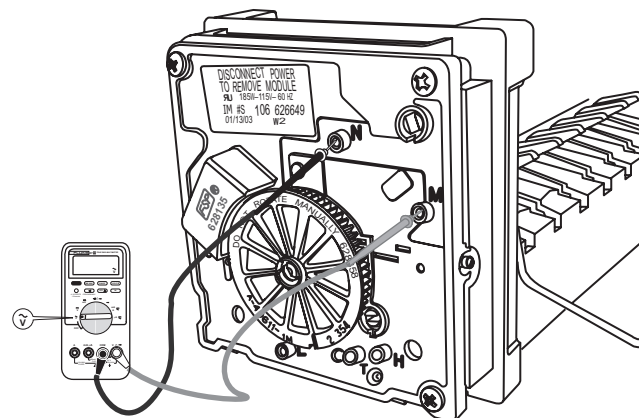

Figure 63. Checking voltage to motor
3. Set multimeter to AC scale, then connect probes to test point N and M. See Figure 63. Test probe tips must be 1/2 inch long to make full contact with internal terminals. Voltage at the motor should measure 108 to 132 Vac.